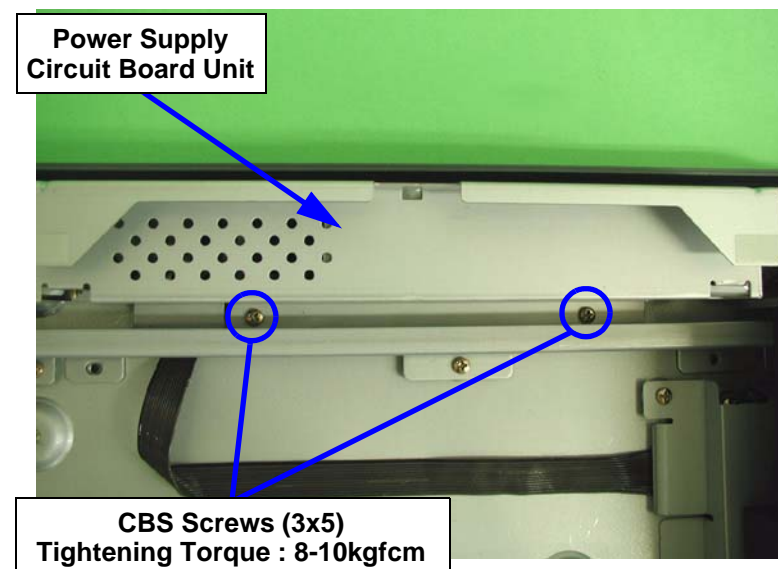

Figure 4-30. Power Supply Circuit Board Removal (1)
4. Remove the two screws (CBS, M3x5). (See Figure 4-30)